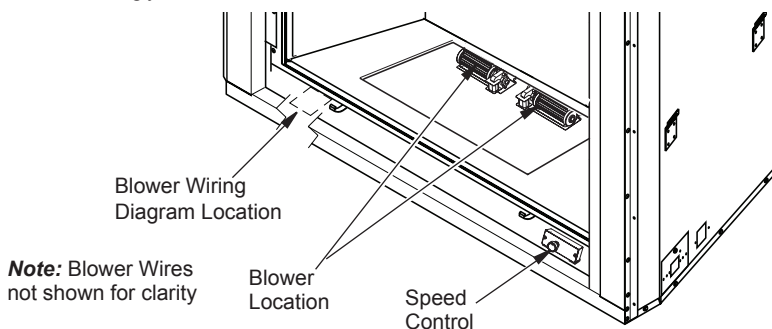

Figure 36 - Blower Assembly, Speed Control and Wiring Diagram Location
Note: Blower assembly may have moved during transit. Make sure blowers are properly mounted (see Figure 36 for proper location).
5. The blower will only run when the speed control knob is in the ON position. The blower speed can be adjusted by rotating the control knob. To turn off, turn knob fully counterclockwise until it clicks off (See Figure 36).